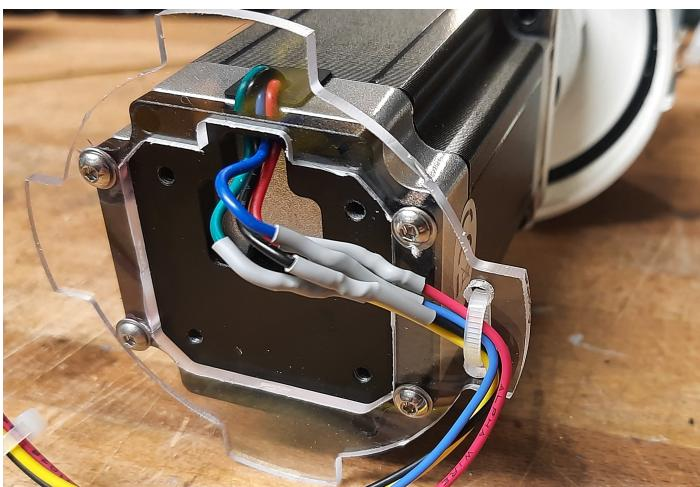

Figure 1. New motor wiring.
6. Drill two holes (use the 3.4 mm drill bit) in one of the side tabs on the clear plastic support - these are for a cable tie (see Figure 1).
8. Secure the wires using a cable tie through the two holes drilled in the clear plastic support (Figure 1)